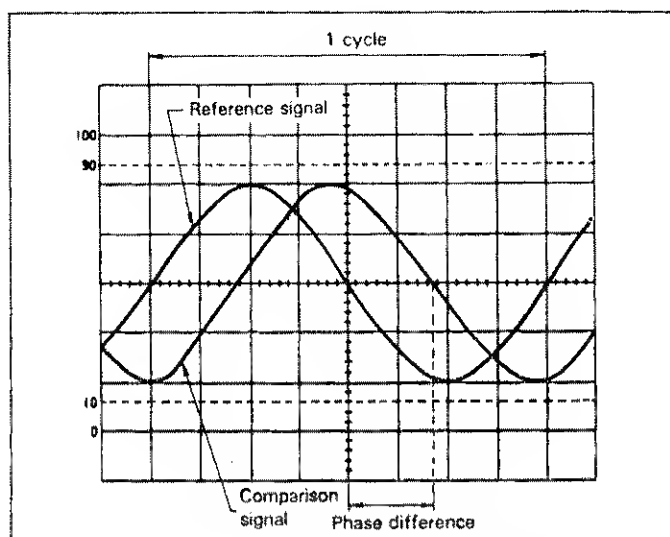

Fig. 15. Phase Difference Measurement.
(Refer to Fig. 15)
1. Apply the two signals to the **CH 1 (X)** and **CH 2 (Y)** input jacks.
3. Use the \uparrow position controls to position the waveforms in the vertical center of the screen. Use the sweep **TIME/DIV** and **Var** controls to adjust the display so one cycle of the reference signal occupies 8 divisions horizontally (see Fig. 15). The **Trig Level** and $\leftarrow \rightarrow$ position controls are also useful in achieving this display. The display should be as shown in Fig. 15, where one division now represents 45° in phase.
For the example shown in Fig. 15, the horizontal distance is 1.7 divisions. Thus, the phase difference is calculated as follows: